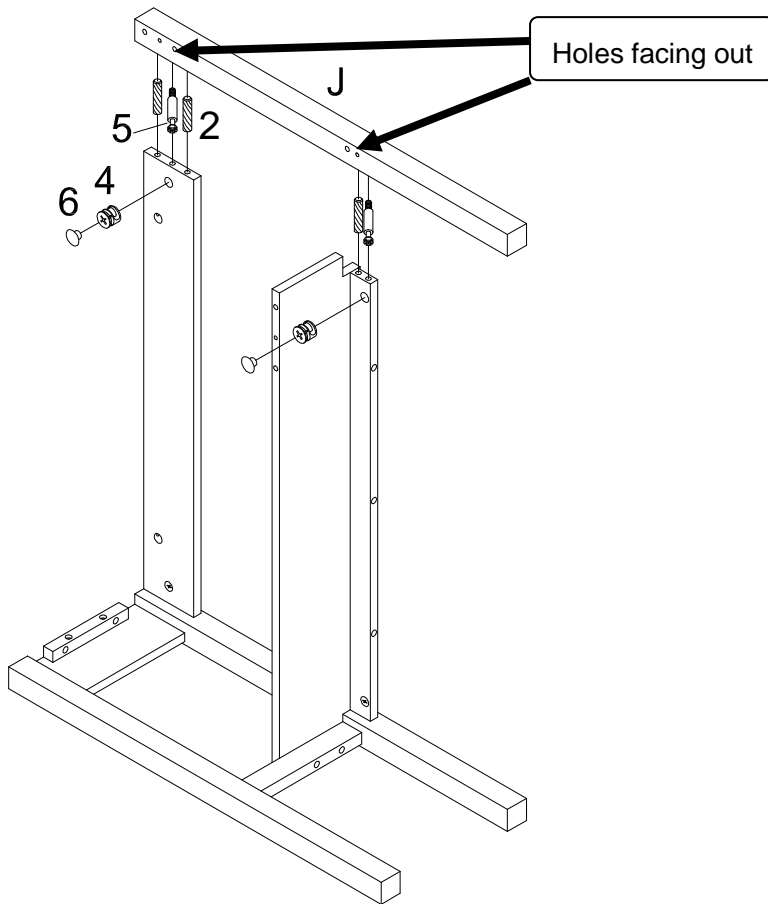
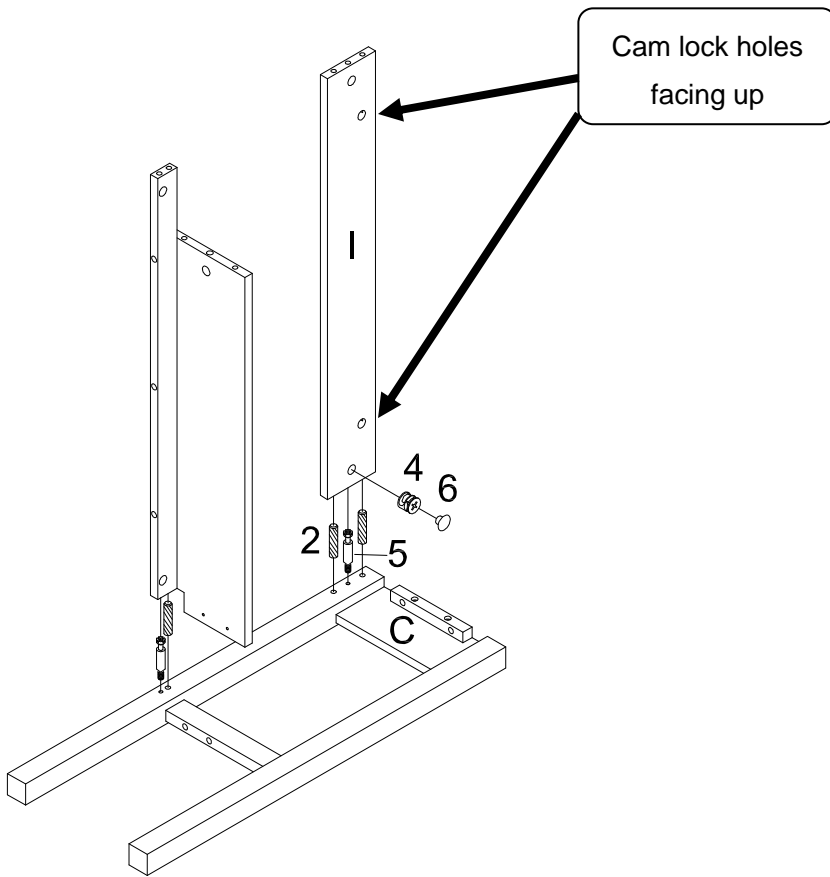

Figure 9
Figure 11
Insert cam locks (4) into holes on assembled unit from figure 11. Screw cam bolts (5) into holes on assembled unit from figure 9.
Attach assembled unit from figure 11 to assembled unit from figure 9 by inserting wood dowels (2) and cam bolts (5) into corresponding holes until assembled unit from figure 11 and assembled unit from figure 9 meet.